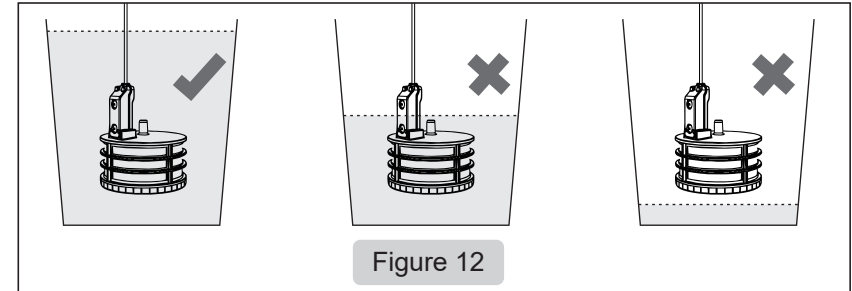

Figure 12
- 1) If the **ALARM** indicator flashes **Red**, fill the reservoir (Referring to **Figure 12**).